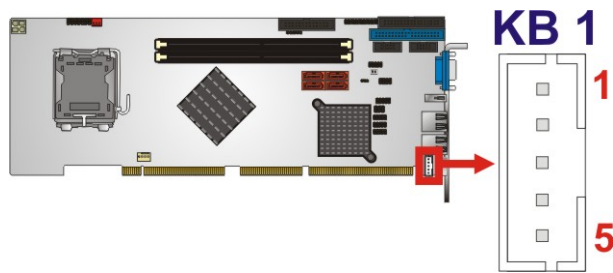

Figure 3-12: Keyboard Connector Location
- CN Location:** See **Figure 3-12**